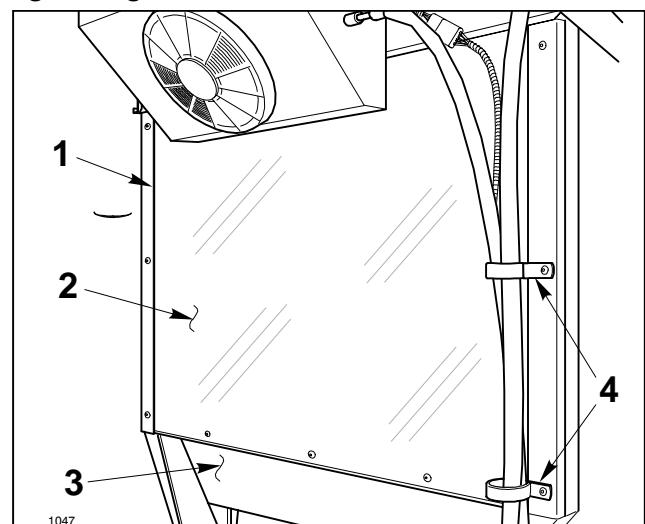

FIG. 11
1. Slide Rear Window into Enclosure Cover Assembly, making sure the top of the Rear Window is in the groove. Secure Rear Window to Rear Rops Bar and Rear Cab Panel using (2) Rear Window Clamps, (2) R-Clamps, (9) 1/4" flange screws and (3) flange locknuts. **NOTE: The (3) screws going through the Rear Cab Panel and bottom of Rear Window require the (3) flange locknuts.** Start at the top and work down when tightening screws. See FIG. 11.
2. Secure Refrigeration Hoses at back of R.H. Rops with (2) large R-Clamps. See FIG. 11.